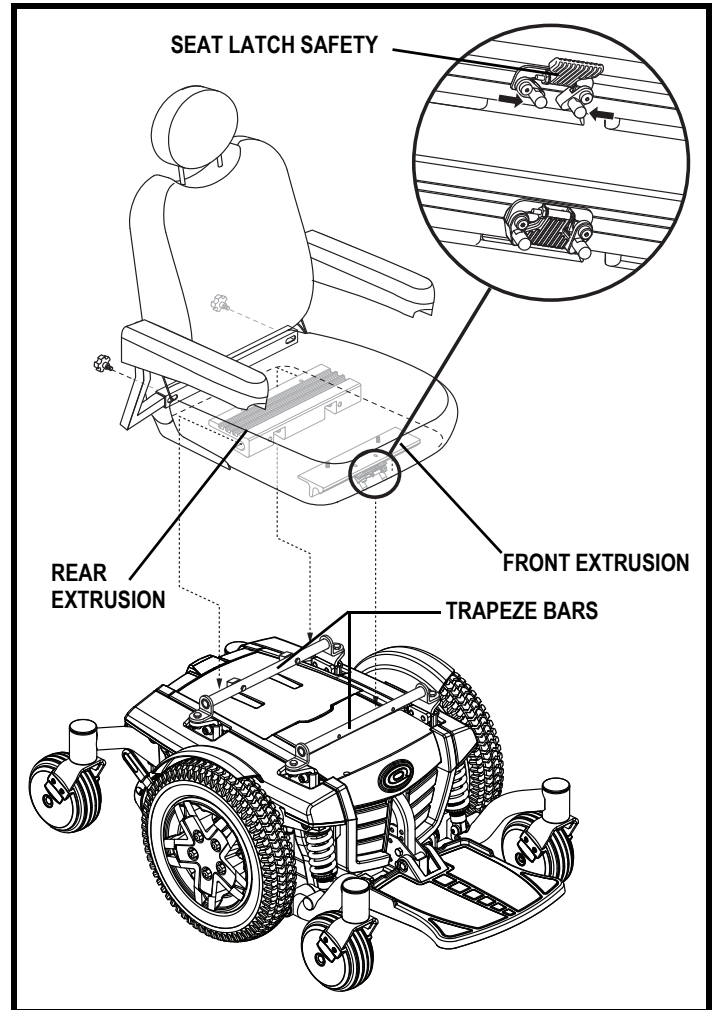

Figure 11. Universal Mounting System and Contour Seat
It may be necessary to install the seat either prior to initial operation or after transporting your power chair. Contour seats are attached to the power base with the Universal Mounting System (UMS). The UMS consists of universal parts that may be attached to the seat, regardless of seat width or seat depth. The two main components are aluminum extrusions mounted to the seat base. These extrusions attach to a pair of trapeze bars that are mounted to the power base. See figure 11.
1. Tilt the seat back and slide the rear extrusion onto the rear trapeze bar. See figure 11.
4. Flip up the seat latch safety. See figure 11.